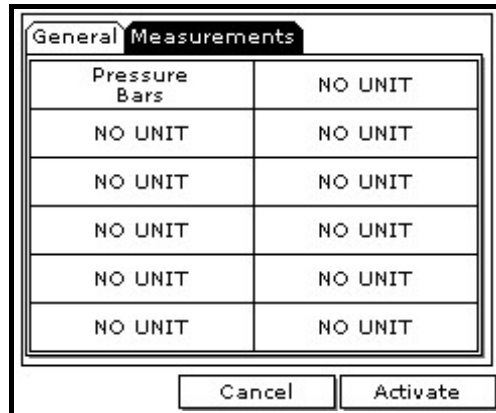

Figure 43: Log Measurements Window
- Use the arrow keys to move back to the General tab and then move to the Measurements tab and press [ENTER]. A screen similar to Figure 43 appears.